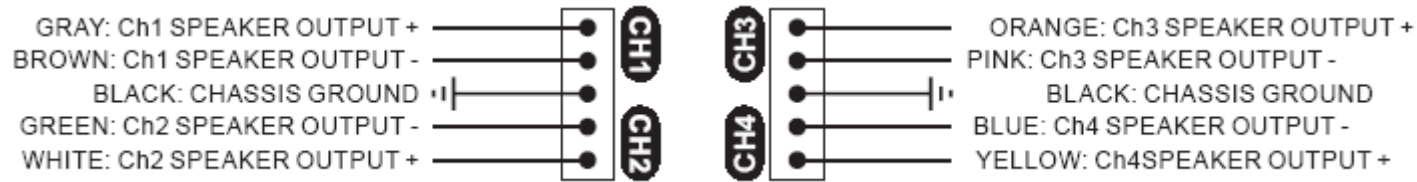

Fig.2.
- Connect the low level/line level RCA cables from the head unit, or signal processor, to the line level input on the amplifier. See Fig.2 system wiring diagrams.